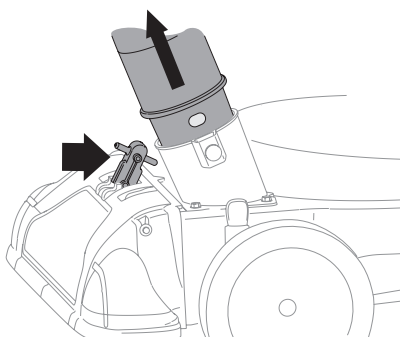

Figure 12
- The spring loaded pin must be in the first hole (closest to the end of the tube) of the hose adapter to operate the nozzle vac. See Figure 12.